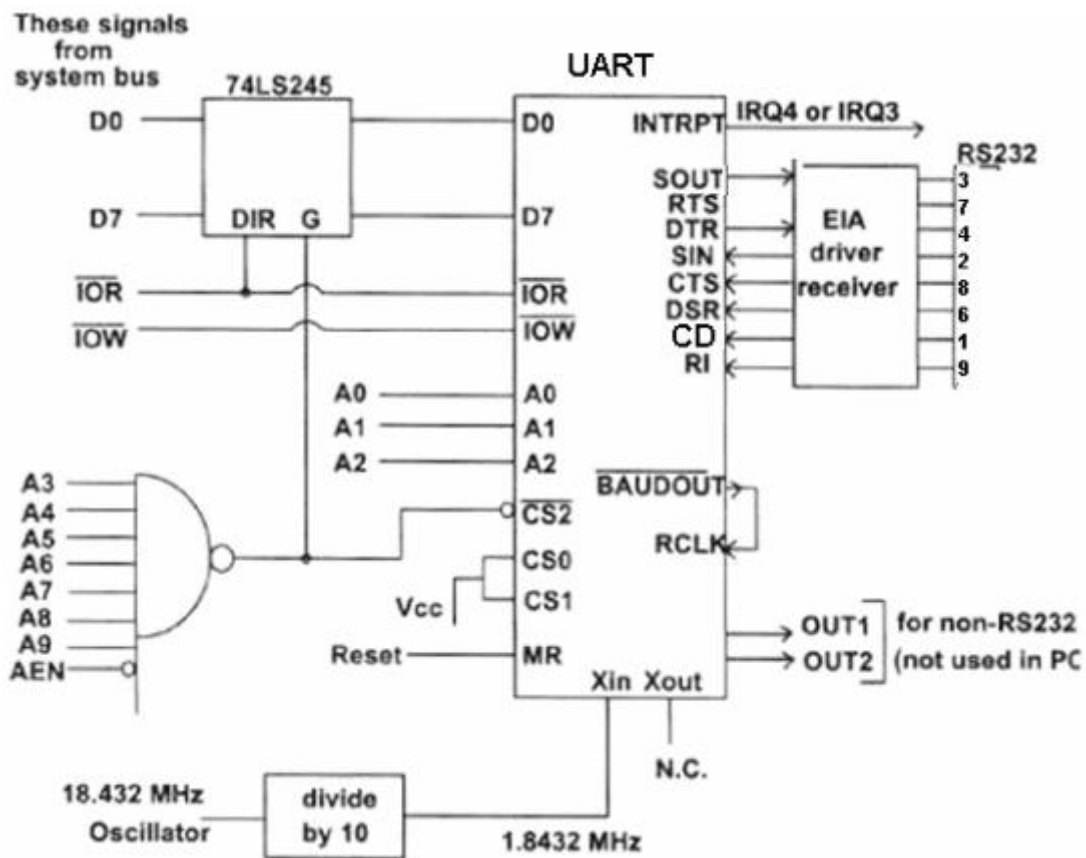

Figure 3 UART (16550) Interfacing Circuit in Personal Computers
In PC's there is a serial port uses RS-232 protocol decoded as Shown in (Figure 3) Note that the base address is 3F8h.
From Figure 3 we note that A0, A1 and A2 select an internal register for programming and data transfer. For example, Line control register sets the number of data bits, number of stop bits and the parity, addressed at location 011. Notice that it will be at address (3F8+3=3FB). For the list of all internal registers see Table 2.
1. From Figure 3 how can you explain why the address of COM1 is 3F8h?